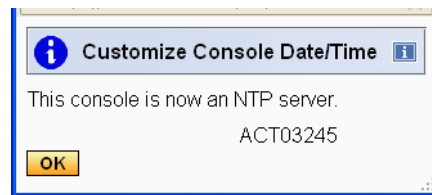

Figure 1-22 Message ACT03245 - NTP server function enabled
3. Selecting **Yes** saves and enables the time server function. An information window displays (Figure 1-22).